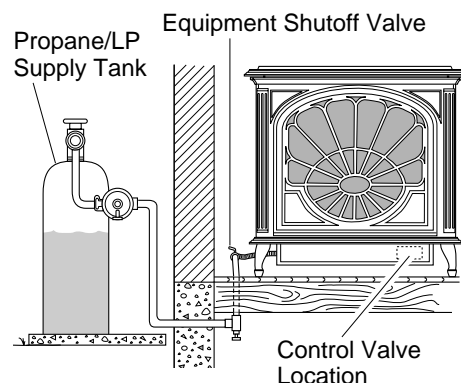

Figure 24 - Checking Gas Joints (Amity™ Stove Model Shown)
3. Check all joints from gas meter to equipment shutoff valve (see Figure 24). Apply a noncorrosive leak detection fluid to gas joints. Bubbles forming show a leak.
4. Check all joints from equipment shutoff valve to control valve (see Figure 24). Apply a noncorrosive leak detection fluid to gas joints. Bubbles forming show a leak.